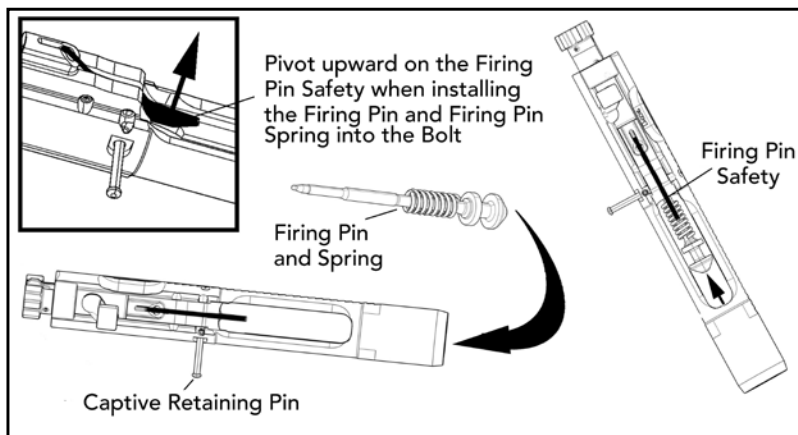

Fig. 60 – Installing the Firing Pin
- c. Ensure that the captive firing pin retaining pin is drifted completely out to the left hand side of the bolt carrier. Insert the firing pin spring onto the firing pin, pivot upwards on the spring loaded firing pin safety, and insert the firing pin and spring into the bolt carrier's firing pin tunnel until the firing pin reaches its limit of forward travel (Fig. 60).